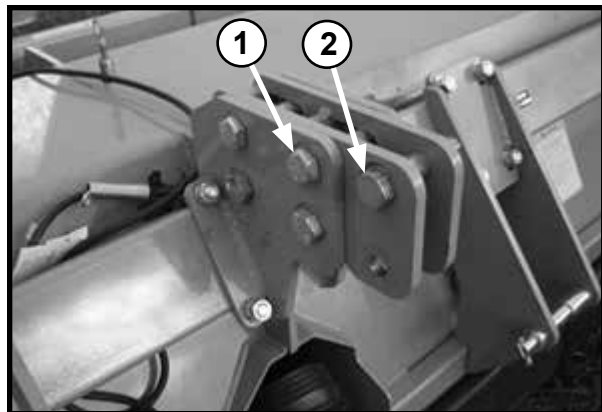

Figure 52. Floating Top Mast Installed
8. Fasten floating top mast (1) to shredder, using four 1 x 6" hex bolts and top lock nuts as shown in Figure 52. Be sure mast is free to slide forward.
9. Attach one upper 3-point 1 x 5" bolt, bushing, lock washer, and hex nut (2).